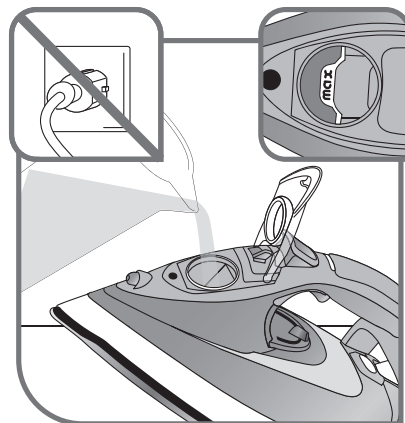

fig.3
- Fill the tank to the “MAX” marking – fig.3.